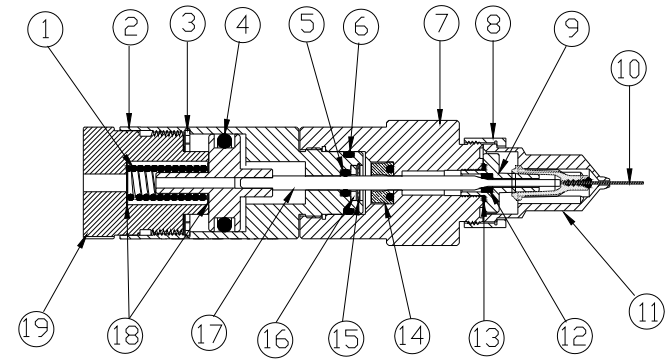

Figure 4.0
7.3 Needle/Tip Adapter and Air Cap Replacement (See Figure 4.0)
7.2 Needle/Piston Assembly and Seal Replacement (See Figure 4.0)
7.1 Thorough Cleaning (See Figure 4.0)